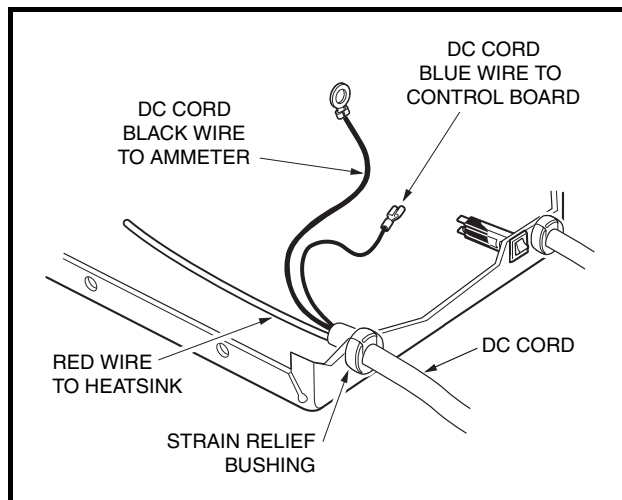
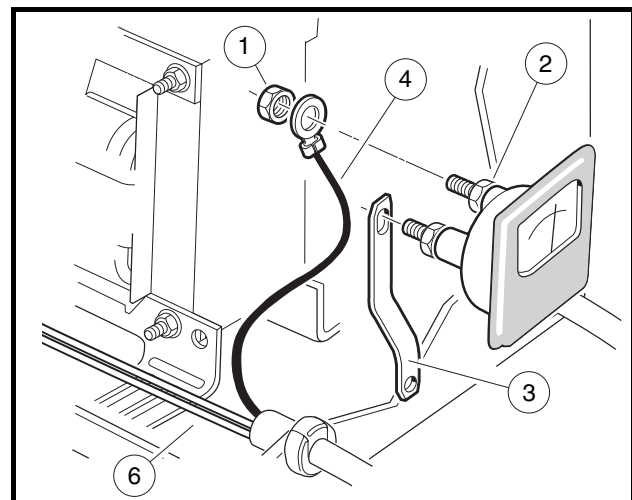

Figure 4-22 DC Cord
Figure 4-23 DC Cord Replacement
3. To check the continuity of the DC cord, disconnect the black wire of the DC cord from the ammeter **(Figure 4-22, Page 4-24).**
- Remove the DC cord black wire (4) from the ammeter by loosening the nut (1). Support the terminal as the nut is loosened to prevent rotation of the connection (Figure 4-23, Page 4-24).
- Remove nut attaching the red wire (6) of the charger DC cord to the heatsink.
- Disconnect the DC cord blue wire from the control board (Figure 4-22, Page 4-24).
- Using pliers, squeeze the strain relief bushing and remove the DC cord (Figure 4-22, Page 4-24).
2. Attach the red wire of the new DC cord to the center terminal of the heatsink and tighten the nut to 18 in-lb (2.0 N·m) (**Figure 4-22, Page 4-24**).
3. Attach the blue wire of the new DC cord to the control board (**Figure 4-22, Page 4-24**).
4. Attach black wire of the new DC cord to ammeter. Install nut (1) onto post of ammeter slightly more than finger tight. While holding the inside nut (2), tighten the outside nut (1) 1/4 turn (**Figure 4-23, Page 4-24**).